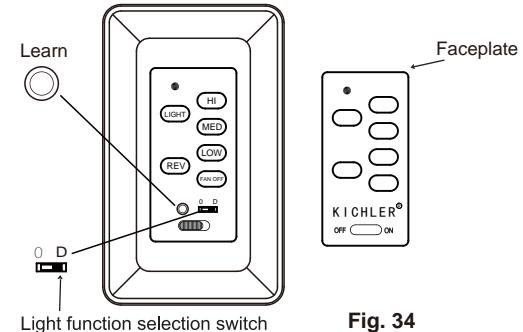

Fig. 34
ACTIVATING THE LEARNING PROCESS(Fig. 34)
1. Use a small flat screw driver and gently pry the faceplate apart from the top of wall transmitter (Fig.34)
2. After installation is complete, AC power is turned on and OFF ON SWITCH is at ON position within 30 seconds,press and hold the LEARN button for 3 seconds. Fan will turn on at medium speed and light (if installed) will turn on. This confirms that the SMART SYNC setting is active and ok. (Fig.34)
LIGHT FUNCTION SELECT SWITCH(Fig.34)